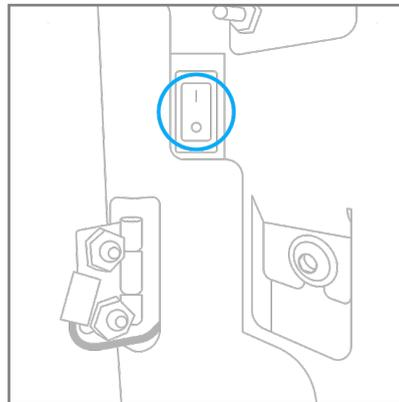

Figure 11.
Step 8: Turn the power switch to the "ON" position (I) (Figure 11).